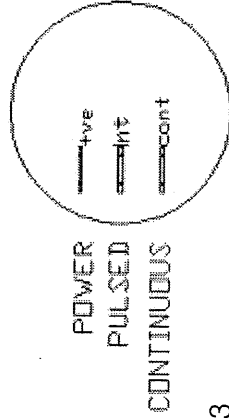

Fig. 3
6. Re-Fit Buzzer – see Diagram for Connections (Fig. 3).
8. Connect Buzzer and Ignition Switch – see Diagram for Connections (Fig. 3 and 4).